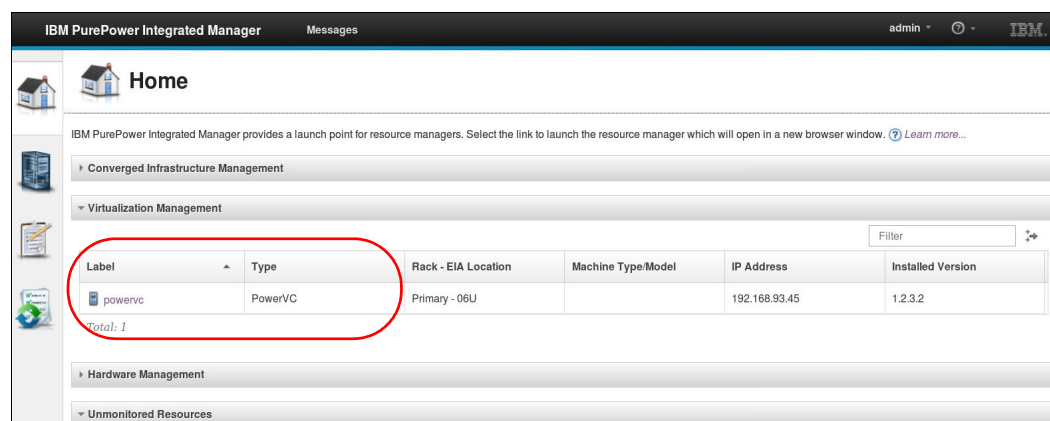

Figure 2-7 Start the PowerVC interface
3. You are now in the PPIM main page (Figure 2-7). Click **Home** at the top of the window, and then click **powervc**.